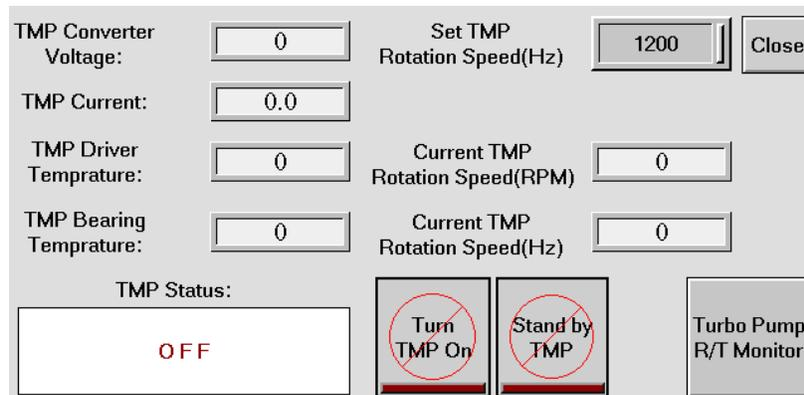

Figure 5-8: Turbo Molecular pump page
- 12- Press the vacuum pump key to turn on the backing pump. Once it is on the chamber will go under vacuum condition and it is not possible to open the door. The pressure gauge will show the pressure drop after 30 seconds (Figure 5-8). The unit of pressure by default selected, Torr, but if touch the Torr in the screen it will be changed to mbar.
- 13- After a few minutes, once the pressure is 5×10^{-1} torr, press the turbo pump (TMP) key to enter its setting page. Enter the desired speed of pump in terms of frequency (1 Hz is equal to 60 rpm) and then turn on the pump to start to work (Figure 5-8).